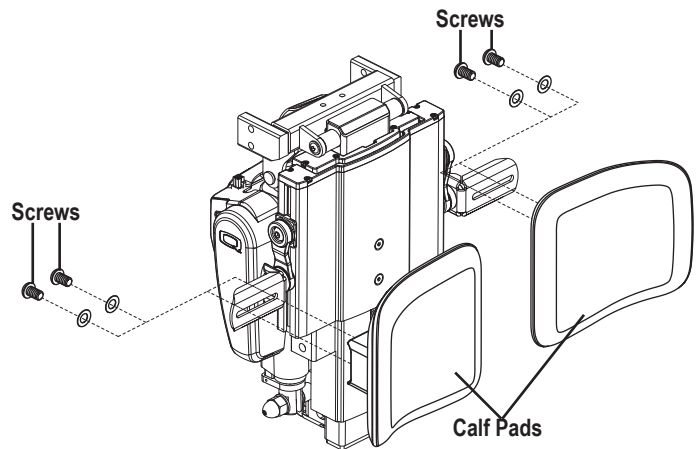
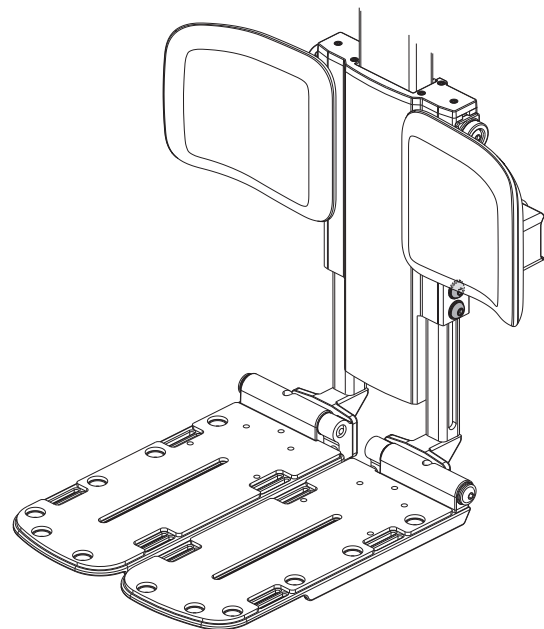

Figure 8. Calf Pad Adjustment for the Articulating Foot Platform
Figure 9. Angle Adjustment for Foot Plate
The single actuator articulating foot platform maintains the correct knee-to-heel measurements when the user's legs are being elevated. **See figure 8.** The single actuator articulating foot platform elevates to 13°, has standard calf pads that are depth and height adjustable (**see figure 9**), has a maximum user weight capacity of 300 lbs. (136 kg), and has an operating temperature of 40°F (4°C) to 105°F (40°C). The articulating foot platform operates through the power chair controller or toggle switch.
1. Flip up the foot plate and locate the screw. **See figure 9.**